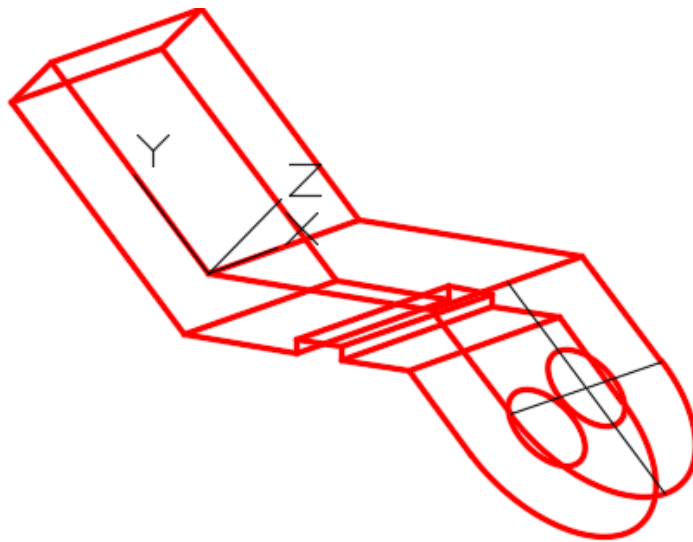

Figure Step 13
Step 13 Trim or delete the lines as required. Using the 3 Point method, locate the UCS to the upper incline plane. (Figure Step 13)